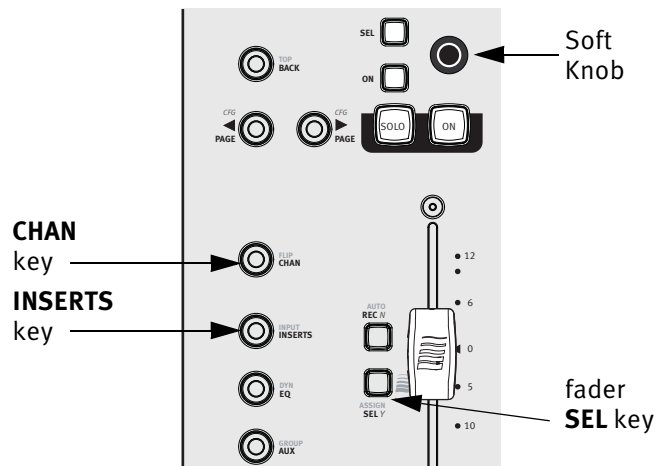

Figure 3-4 Fader strip, **INSERTS** and **CHAN** keys
3. Press the MC Mix's strip 1 fader **SEL** key (Figure 3-4).
4. Press the **CHAN** key to enter channel mode (Figure 3-4).
5. Press the **INSERTS** key (Figure 3-4).
6. Press the Soft Knob (Figure 3-4) below the desired plug-in's name to select it.
10. Press the **CHAN** key to exit channel mode (Figure 3-4).